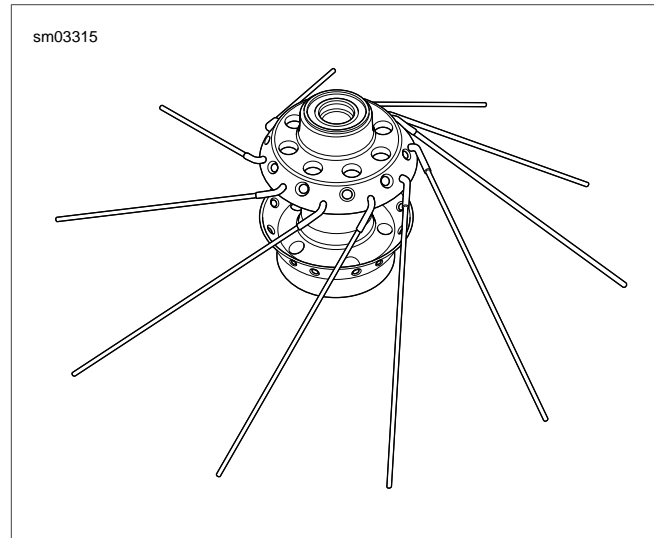

Figure 2-44. Spokes in Lower Row
- See Figure 2-44. Place the hub on table with primary brake disc side down. Insert a spoke in each hole of the **lower** row. Angle spokes clockwise.